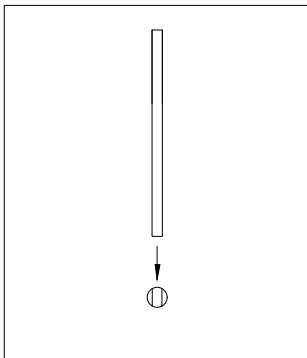

Figure 2
3. Slide wall bar through the top of the bottom post going below the top wall anchor. (Fig. 2)